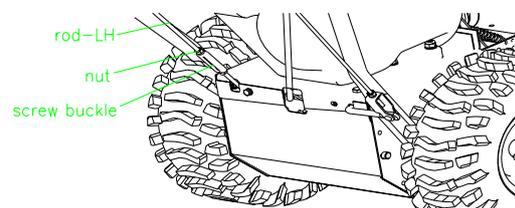

FIG 3
2.3.1 Thread a flange nut with the flange down onto the traction rod attached to the left side of the handle. Position the left side of the handle against the side of the snow thrower and insert the end of the traction rod through the lower traction rod loop. (FIG 3)